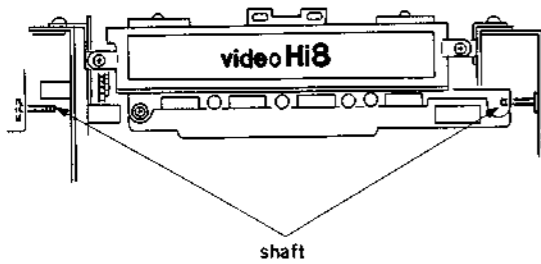

Fig. 2
8. Disconnect the Flat Cable from the connector (CN012) on the SE-10(P) Board. (fig. 2)